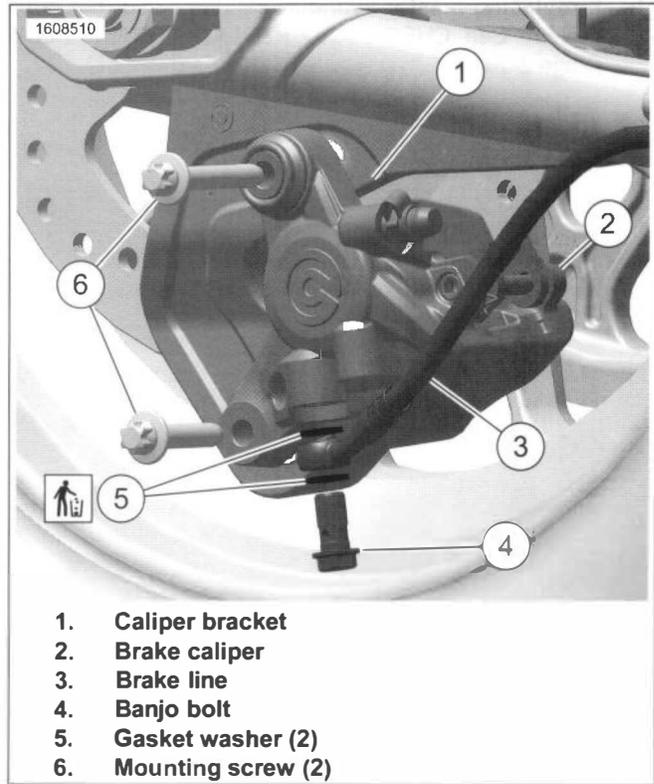

Figure 3-32. Rear Brake Caliper Mounting
1. See Figure 3-32. **If replacing caliper:** Detach brake line.
- a. Remove banjo bolt (4).
- b. Discard gasket washers (5).
- a. Remove mounting screws (6).
- b. Remove caliper (2).
1. See Figure 3-32. Install brake caliper.
- a. Install brake caliper (2) on caliper bracket (1).
- b. Install mounting screws (6). Tighten.